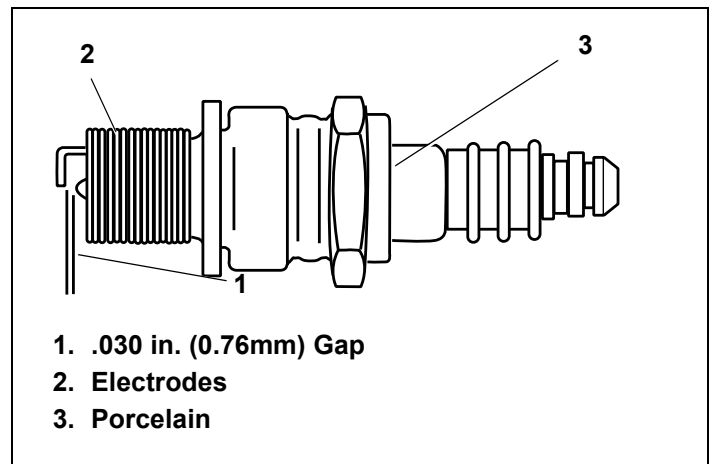

Figure 20. Resistor Spark Plug
4. Check electrode gap with wire feeler gauge and set gap to .030 in. (0.76mm) if necessary. See Figure 20.